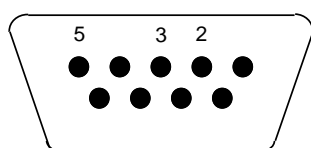

Fig. 4
2.2.2 Shown at *Fig.4* are the pin assignments for the RS-232 connector.